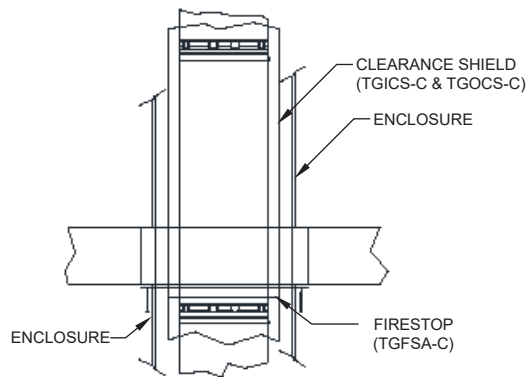
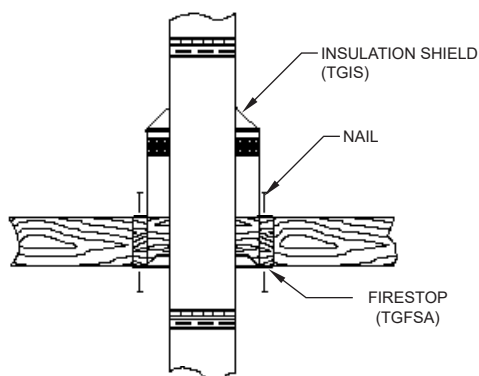
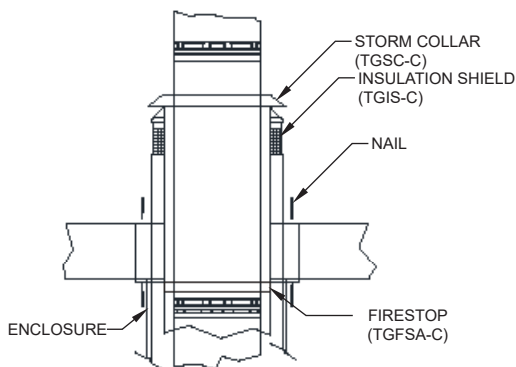

FIG. 6b: CHIMNEY IS ENCLOSED BELOW THE ATTIC AND ENCLOSED IN THE ATTIC
FIG. 6: CHIMNEY IS ENCLOSED BELOW THE ATTIC
FIG. 6a: CHIMNEY IS ENCLOSED BELOW THE ATTIC AND ATTIC IS UNENCLOSED
8. The first chimney section through the joist area into attic is to be approximately two (2) feet. If the pipe sections in the levels below and in the attic are not enclosed an insulation shield (TGIS) must be installed. The vertical height of the attic insulation shield above attic construction material should accommodate the amount of insulation as required by the national building code. Lower insulation shield (TGIS) over TG pipe until the flange is resting on the joist. Secure the (TGIS) in place by nailing the flange to the joists. (See **FIG. 6**). If the pipe sections in the levels below the attic are enclosed and the attic is unenclosed an insulation shield (TGIS-C) must be installed. The clearance shields (TGICS-C & TGOCS-C) must extend through the joist area and insulation shield (TGIS-C). The clearance shields (TGICS-C & TGOCS-C) will terminate above the insulation shield (TGIS-C) and a storm collar (TGASC-C) must be used to close the gap between the TG chimney and clearance shields preventing insulation and debris to fall between them (See **FIG. 6A** and **FIG. 6b**). If the pipe sections are enclosed through the attic, no insulation shield is required. The clearance shields will need to extend up through the flashing.